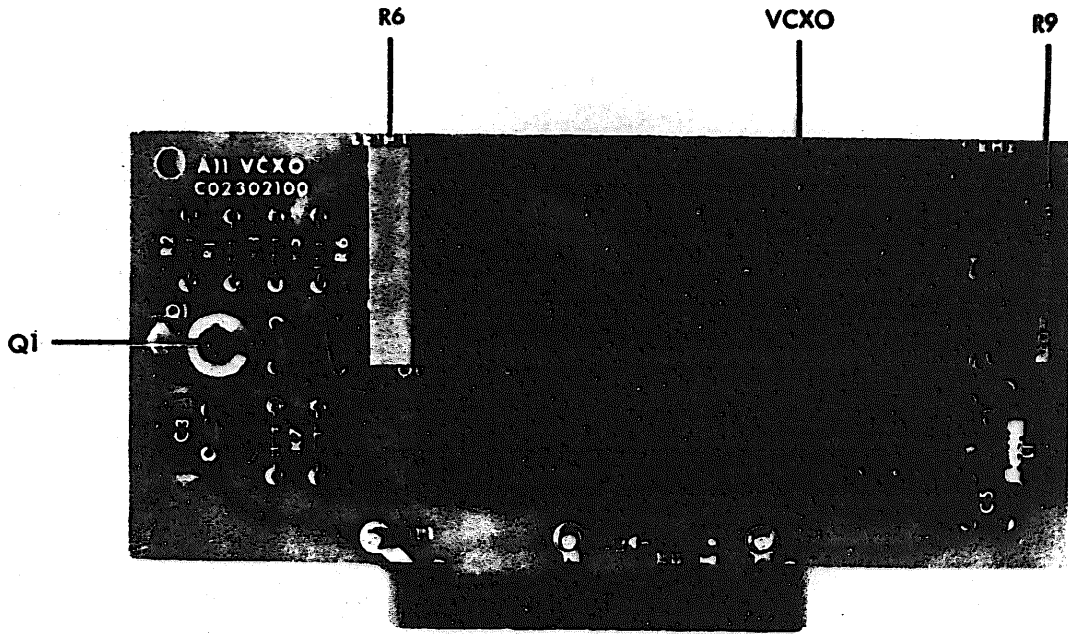
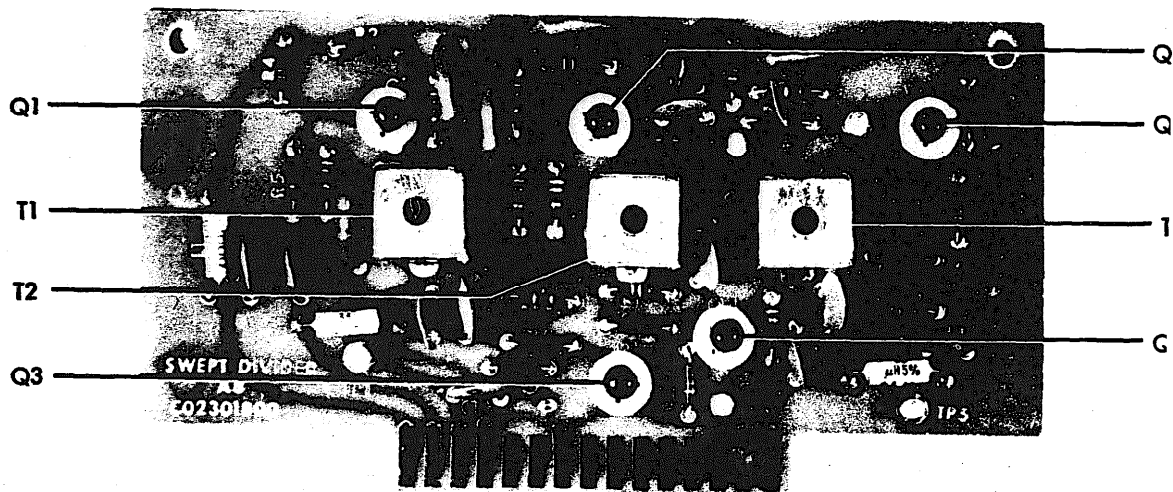

Figure 3-1. Module A11, Voltage Control led Crystal Oscillator (VCXO) CO2302100
Figure 4-4. Module A8, Swept Divider CO2301800
10. Voltage Controlled Crystal Oscillator (VCXO), Module A11 (Figure 3-1)
(1) Detune L4 and L5 by turning slugs clockwise so that they protrude approximately 1/4 inch from printed circuit side of module.
(2) Tune L3 for a maximum reading.
(3) Tune L4 for a minimum reading.
(4) Tune L5 for a maximum reading.
6. VCXO, module A11 (Figure 3-1), and Swept Divider, module A8 (Figure 4-4)